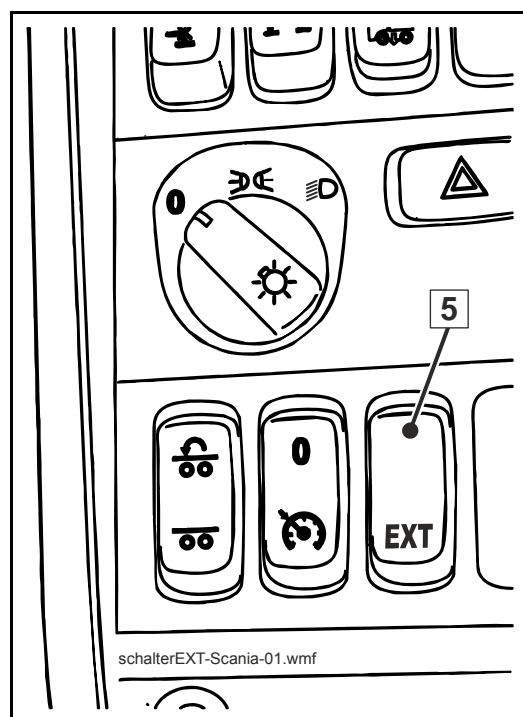

Fig. 49 SCANIA "EXT" switch
- Switch on the VECTOR control system using switch 5 (Fig. 49 SCANIA "EXT" switch).
Caption (Fig. 49 SCANIA "EXT" switch)